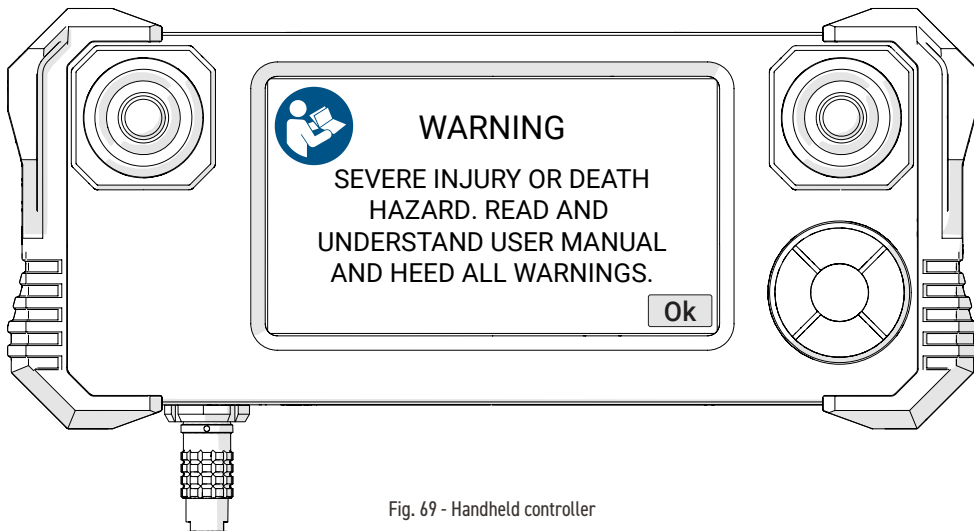

Fig. 69 - Handheld controller
5. A warning message will display on the handheld controller when power has been activated (Fig. 69). Once the dangers of using the **SKOOT•X** are recognized and understood by reading this user manual, touch **Ok** to acknowledge the warning.